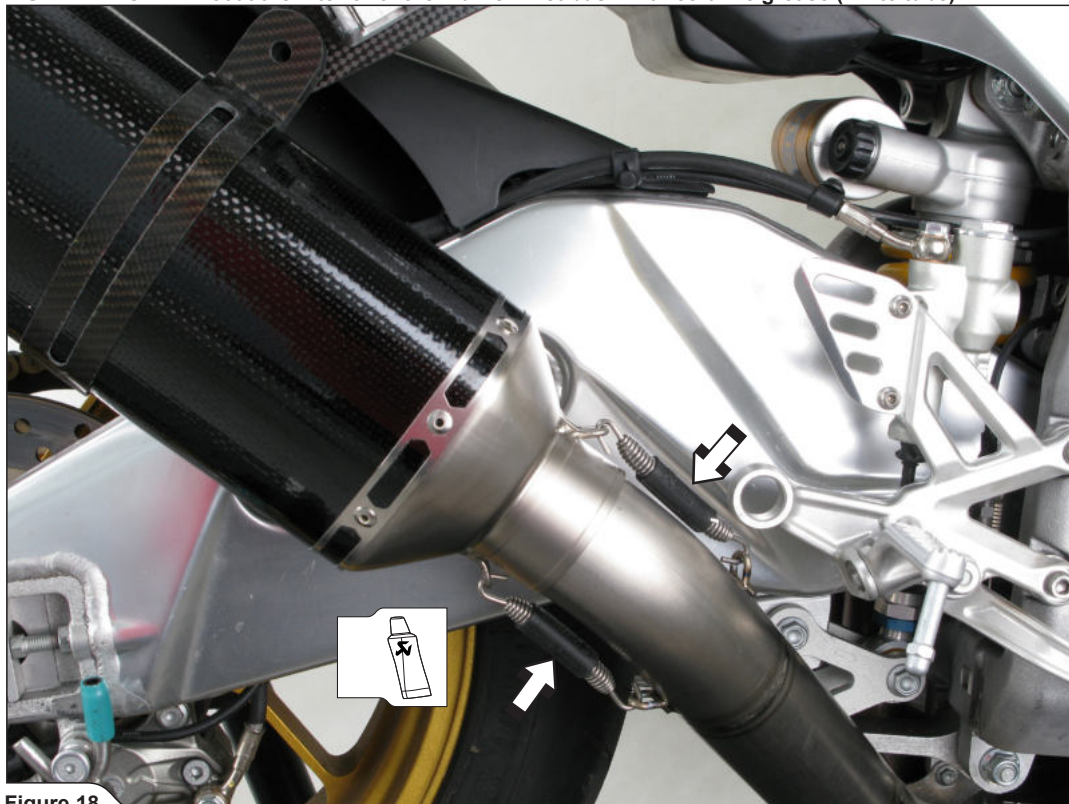

Figure 18
9. Position the muffler correctly and slide it onto the outlet side of the link pipe. Attach the springs (Figure 18).